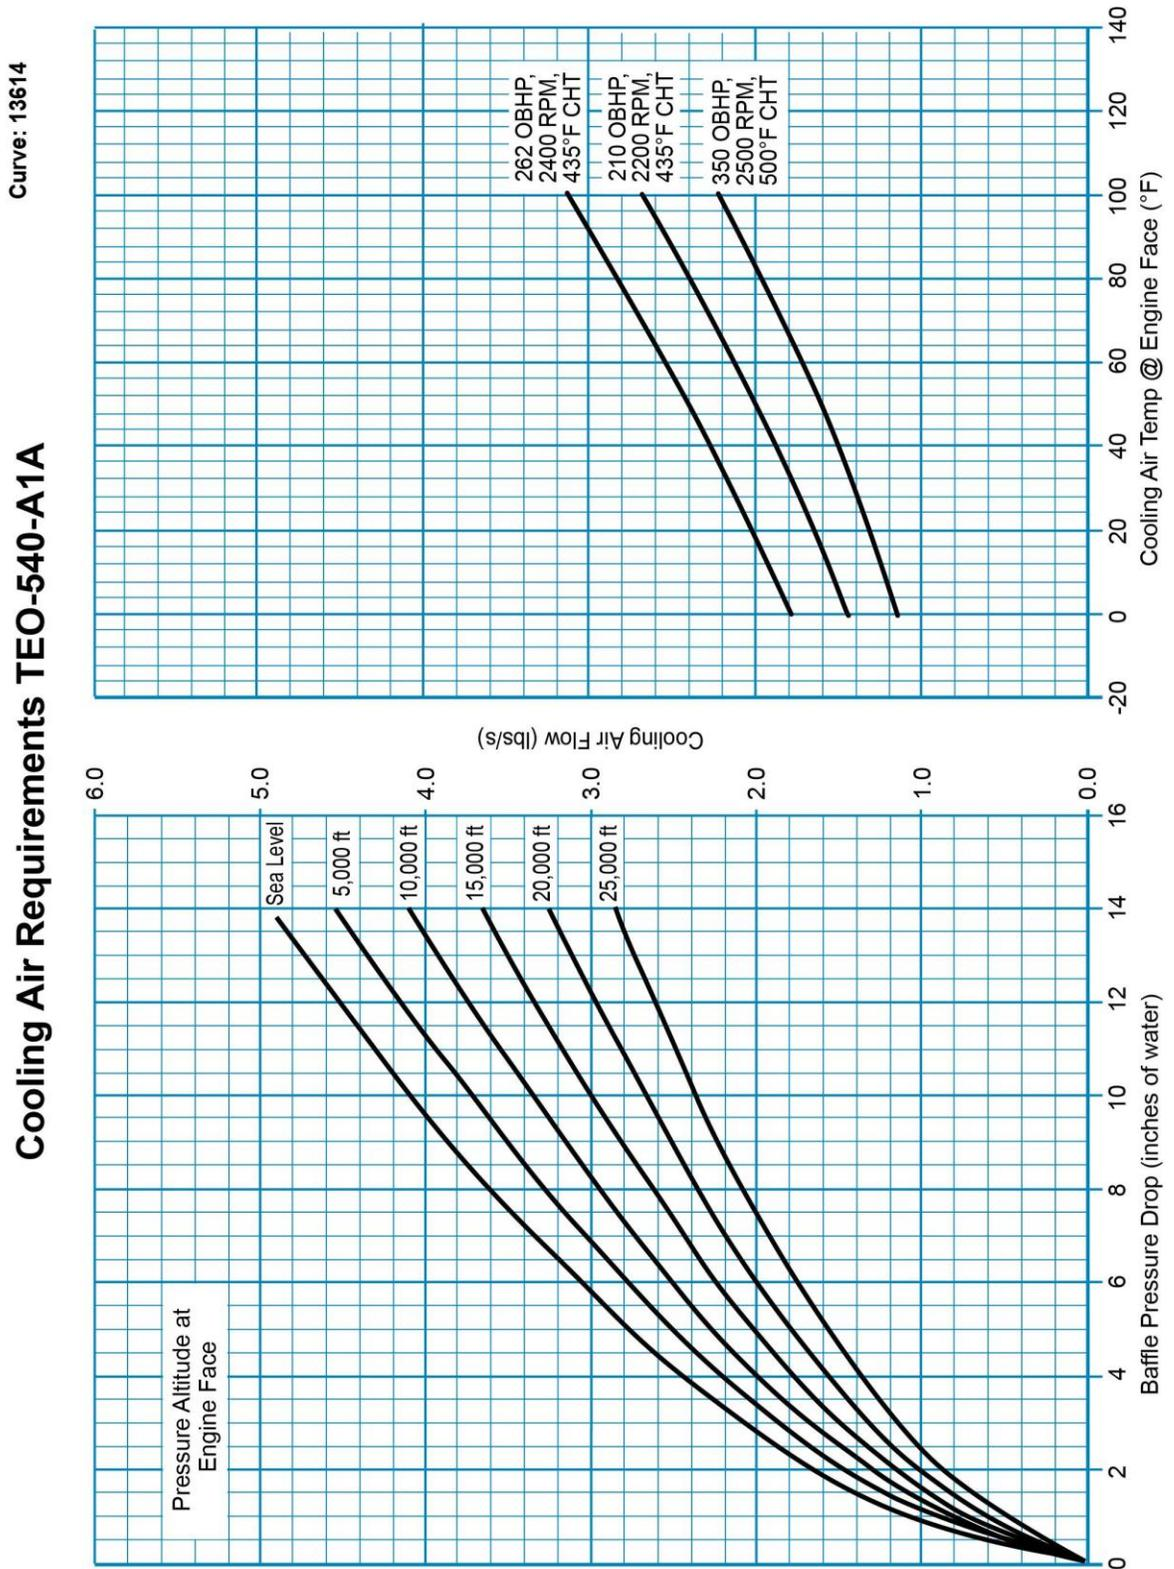

Figure A-1
- Cooling Air Requirements (Figure A-1)